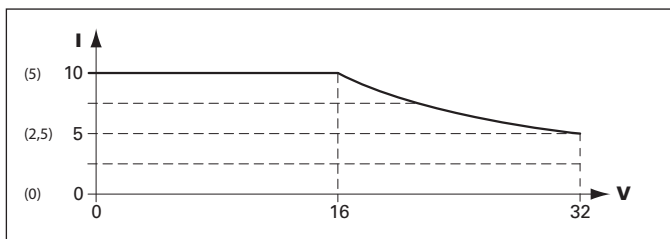

Fig. 4.6: (R&S®HMP2030) R&S®HMP2020/4030/4040 power hyperbola
**R&S®HMP2020:** For the R&S®HMP2020, CH1 and CH2 continuously provide 0V to 32V, where the output power succeeds a power hyperbola (see fig. 4.6).
**R&S®HMP2030:** For the R&S®HMP2030, CH1, CH2 and CH3 continuously provide 0V to 32V, where the output power succeeds a power hyperbola (see fig. 4.6).
**R&S®HMP4030:** For the R&S®HMP4030, CH1, CH2 and CH3 continuously provide 0V to 32V, where the output power succeeds a power hyperbola (see fig. 4.6).
**R&S®HMP4040:** For the R&S®HMP4040, CH1, CH2, CH3 and CH4 continuously provide 0...32V, where the output power succeeds a power hyperbola (see fig. 4.6).